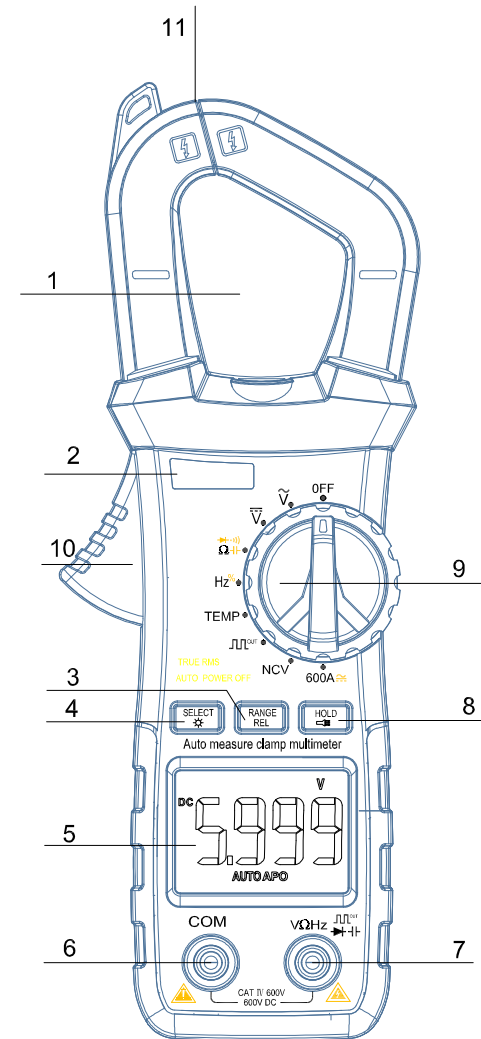

figure 1
1. Turn the range switch to the corresponding “600A” gear position, trigger the SELECT button to select the DC current automatic measurement (the default value is DC current), and the internal can be switched to the corresponding range according to the measured value (internal auto range 60A/600A). Using a device close to the electromagnetic field may indicate unstable or incorrect readings. Press REL to clear before measuring. As shown in Figure 1, press the handle 10, according to the size of the measuring wire diameter, slowly open the jaw opening, the measured current line vertically through the center of the clamp, the measured current value and the current polarity of the red test pen point will be displayed on the screen at the same time. The clamp can only measure one conductor at a time. If two or more conductors are measured at the same time, the measurement
Turn the range switch to the corresponding “600A $\approx$ ” gear position, trigger the SELECT button to select the AC current automatic measurement (the default value is DC current), and the internal can be switched to the corresponding range according to the measured value (internal auto range 60A/600A). As shown in Figure 1, press the handle 10, according to the size of the measuring wire diameter, slowly open the jaw opening, the measured current line vertically through the center of the clamp, the measured current value and the current polarity of the red test pen point will be displayed on the screen at the same time. The clamp can only measure one conductor at a time. If two or more conductors are measured at the same time, the measurement reading will be wrong.